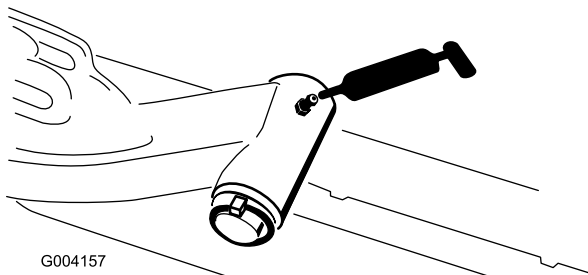

Figure 45
- Lift arm pivot shaft (1 each) (Figure 45)